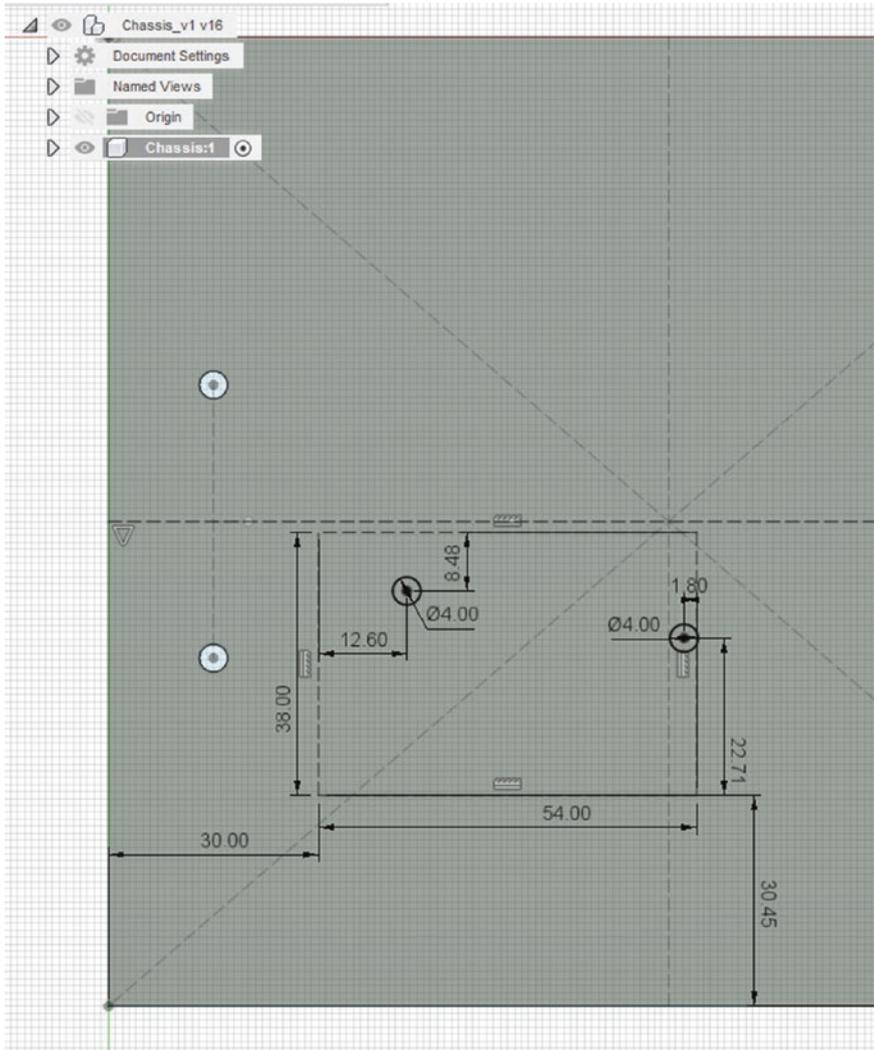

Figure 6-54. Add the holes for the MEGA 2560 Pro
- Let's make a spot for the Arduino to go. We need two holes again. Follow Figure 6-54. Remember you want to make sure the rectangle and holes are constrained. You can tell this sketch is constrained because all lines are black.